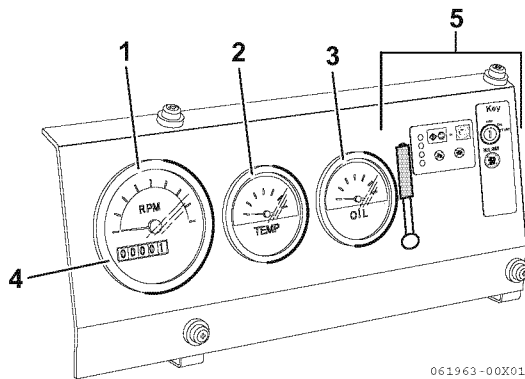

Figure 3
1. While the engine is running, check the gauges for normal indications. The gauges shown in **Figure 3** are provided for illustrative purposes only.
- **Tachometer (1, Figure 3)**
- **Engine lubricating oil pressure (2, Figure 3)**
- **Engine coolant temperature (3, Figure 3)**
- **Hour meter (4, Figure 3)**
2. After the engine has reached operating temperature, all of the indicators (5, **Figure 3**) should be off. If any of the indicators are on, shut down the engine and have the necessary repairs performed.